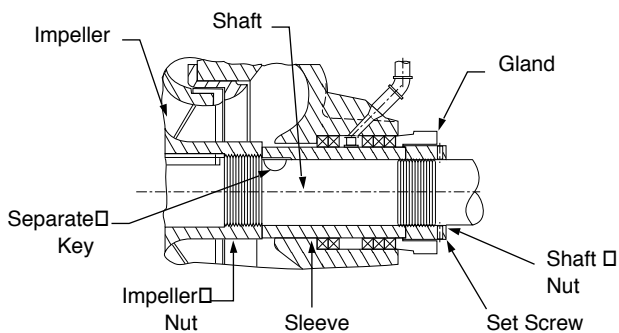

FIGURE 38. Stuffing Box Sleeve
- The most common shaft sleeve function is that of protecting the shaft from packing wear at the stuffing box. Figure 38 shows a typical stuffing box sleeve application.